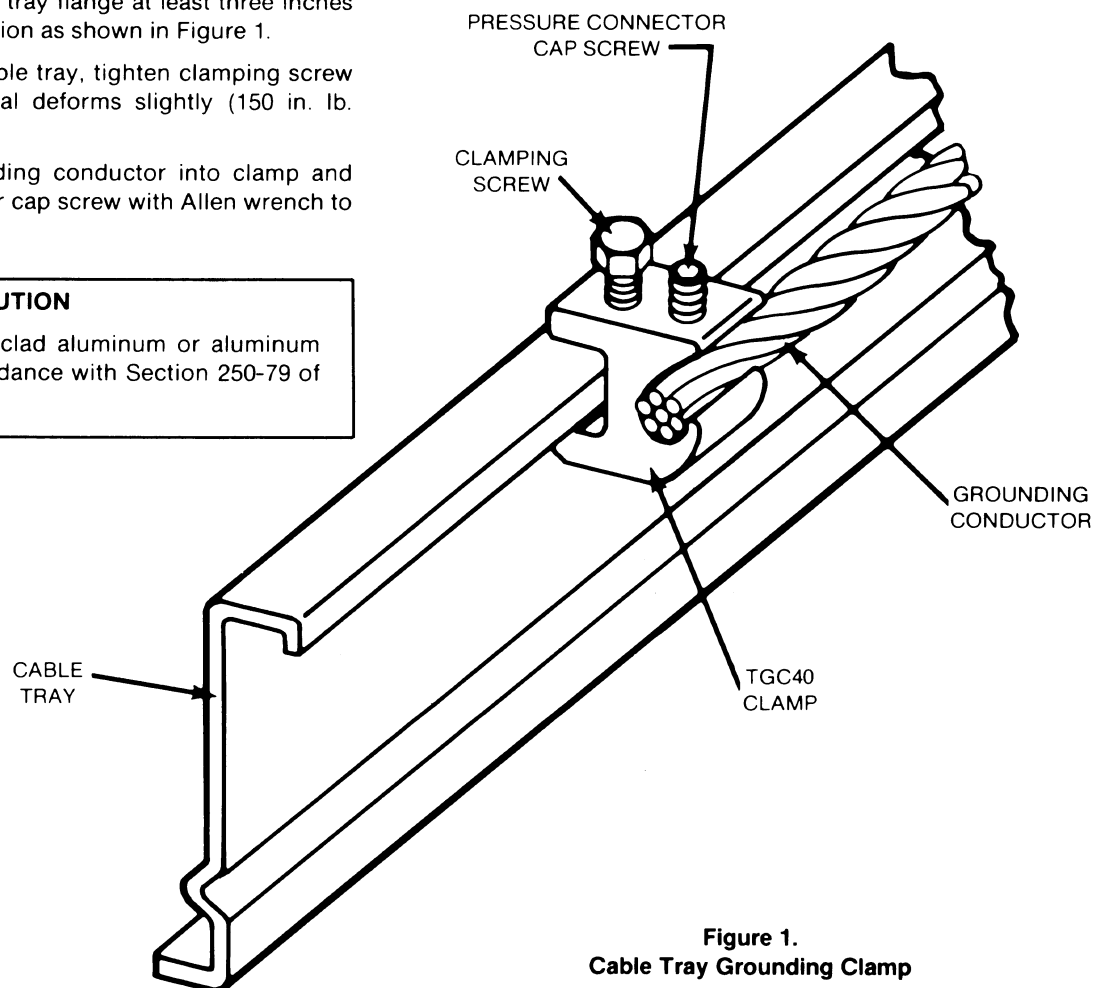

Figure 1.
1. Locate clamp body on the tray flange at least three inches from end of cable tray section as shown in Figure 1.